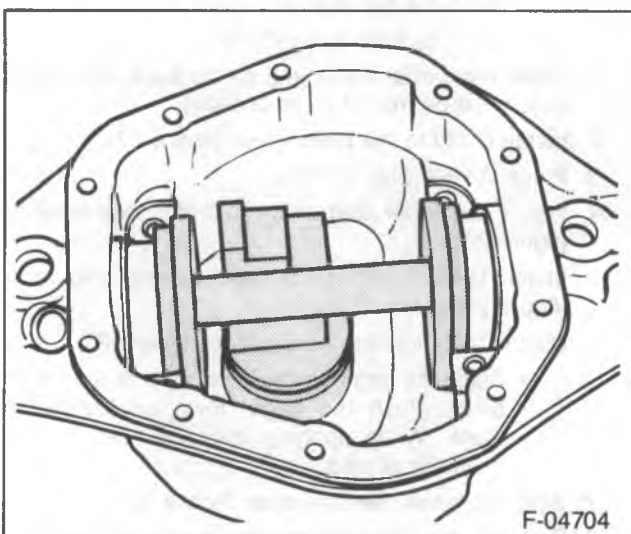

Figure 25—Pinion Height Block
5. Install D-116-1 onto D-120 and against the arbor (figure 25).